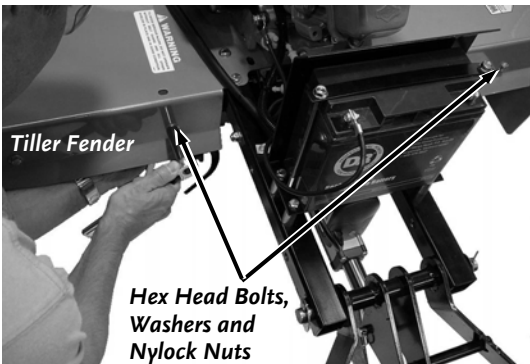

Figure 3
1. Remove two 5/16-18 X 2-1/4" Hex Head Bolts, Washers and Nylock Nuts (1/2" Wrench) from the back face of the ROTO-HOG POWER TILLER Fender (Figure 3).